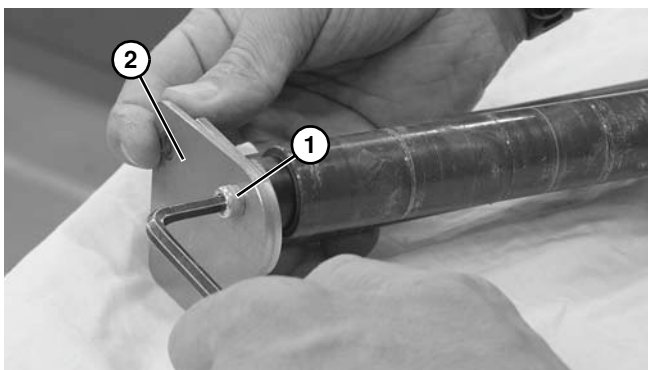

Figure 60
3. Remove screw (Figure 60, item 1) and headplate (Figure 60, item 2).